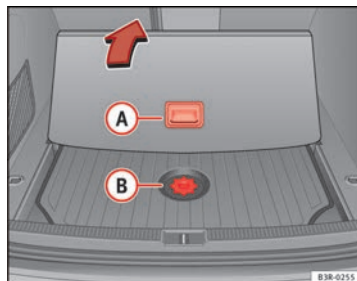

Fig. 192 Access to the toolbox and jack
- Take hold of handle (A) and fold back the floor panel in the luggage compartment ⇒ Fig. 192.
- Unscrew the attachment screw from cover (B) ⇒ Fig. 192.